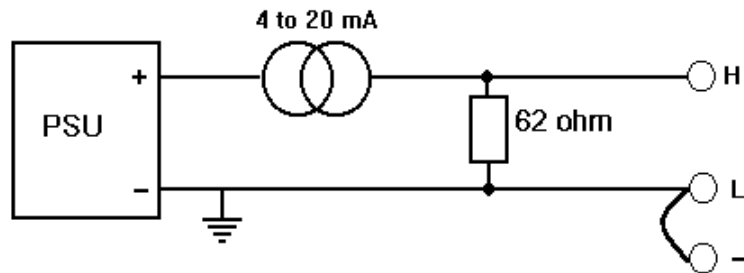

FIGURE 6.14 6-POLE CURRENT SOURCE CONNECTION.
1. If the power source is earthed, the current source should be connected as shown in Figure 6.14.
2. If the power source is isolated, the transducer can be placed in either the high (H) or low (L) lead.
3. A 7021 / 7221 / 7321 module can be used to measure current if an external 62Ω resistor is fitted as shown in Figure 6.14. The tolerance of this resistor determines the accuracy of the current measurement. The specification assumes a 0.1% or better resistor.
4. The guard terminal (—) should be linked to the low terminal (L).